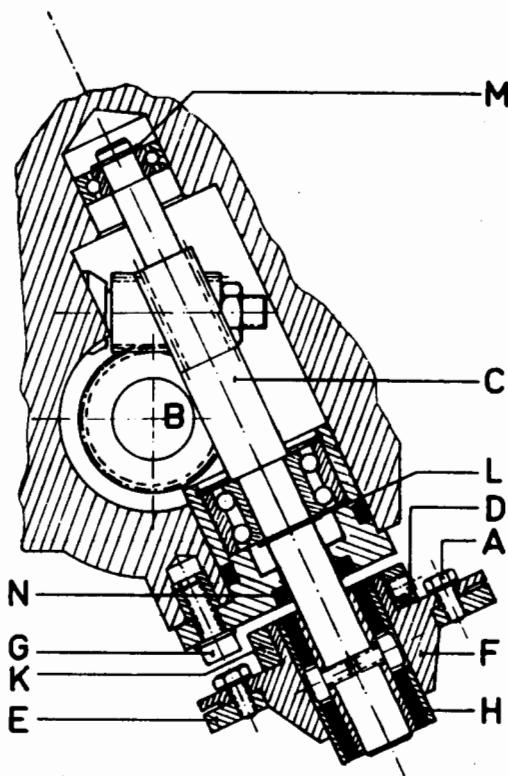

Fig. 5
- . Loosen the four screws A, Fig. 5, page 14
- . Loosen the two screws D, Fig. 5.
- . Remove screws A, Fig. 5.
- . Remove ring E, Fig. 5.
- . Remove flange F (Fig. 5) and ring K (Fig. 5)
- . Loosen the three screws G, Fig. 5.
- . Remove bushing H 2 screws Fig. 5.
- . Remove spring washer M, Fig. 5.
- . Ensure that the oil gasket N, Fig. 5 is not damaged and that no dirt penetrates the ball bearing.